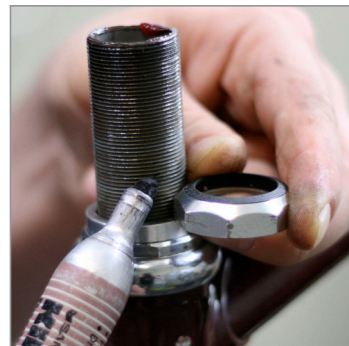
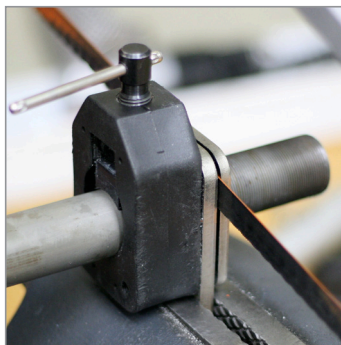

Figure 2
Figure 3
- If the steerer tube is too long, mark the steerer at the top of the locknut (figure 2). Disassemble and cut using a hacksaw and cutting guide (figure 3). Reassemble the headset